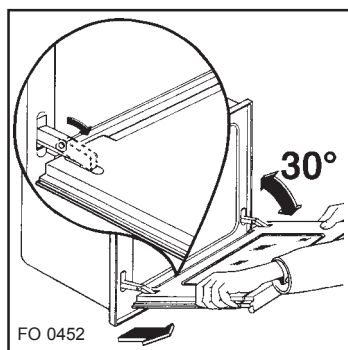

Fig. 5
- open the door completely; lift the small levers placed on the two hinges and turn the levers towards the inside (Fig. 5).